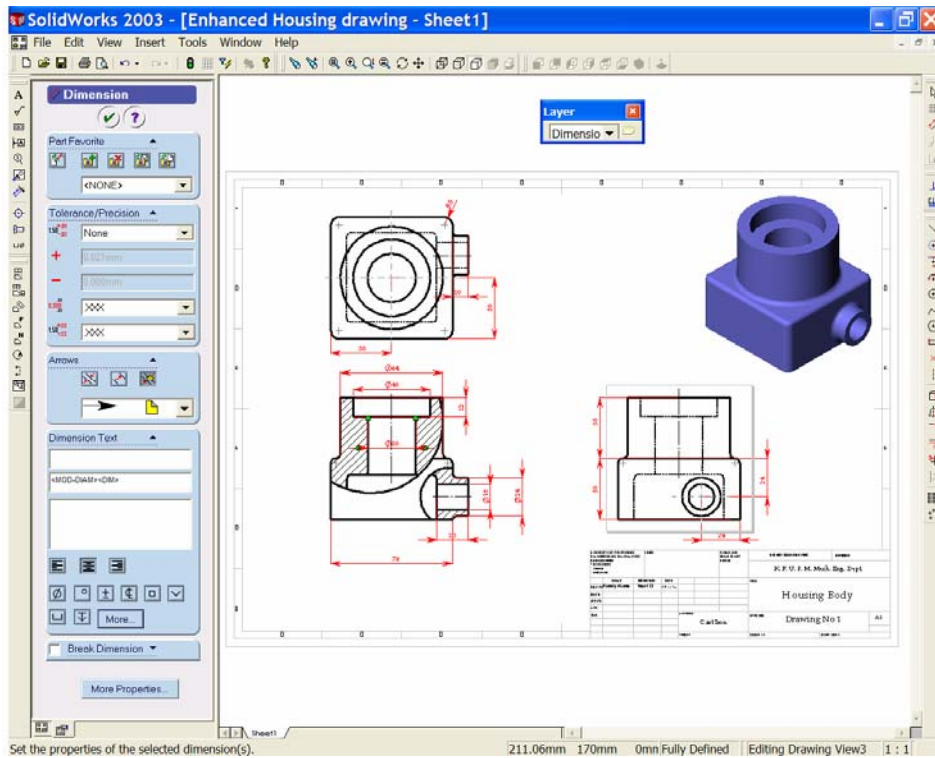
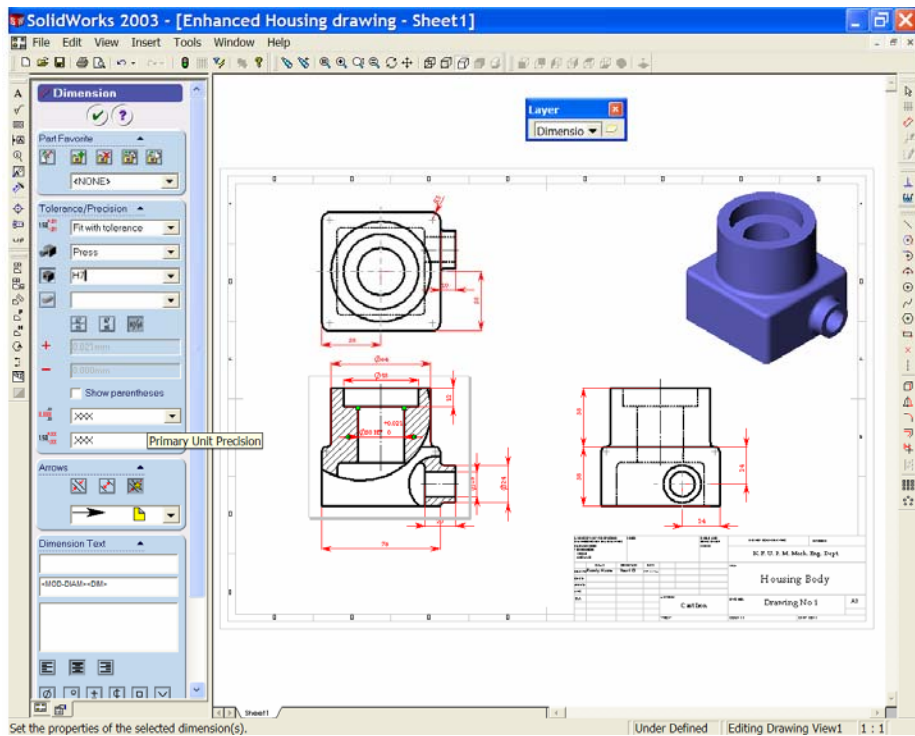

Figure 7
Figure 8
10. Three of the diameters require limits. These are the $\text{Ø}30$ bore, the $\text{Ø}48$ bore and the $\text{Ø}16$ bore. The assignment sheet asks for an '**H7 tolerance**' on each of these diameters. To add tolerances to dimensions first, select $\text{Ø}30$ to activate it, See Figure 7, this will open the dimension properties manager. In the '**Tolerance Type**' window choose '**Fit with tolerance**'. From the '**Classification**' window choose '**Press**'. From the '**Hole Fit**' window choose '**H7**'. From the '**Primary Unit Precision**' and '**Tolerance Precision**' windows choose (**.XXX [three decimal places]**). See Figure 8, and select **OK** to complete the command.